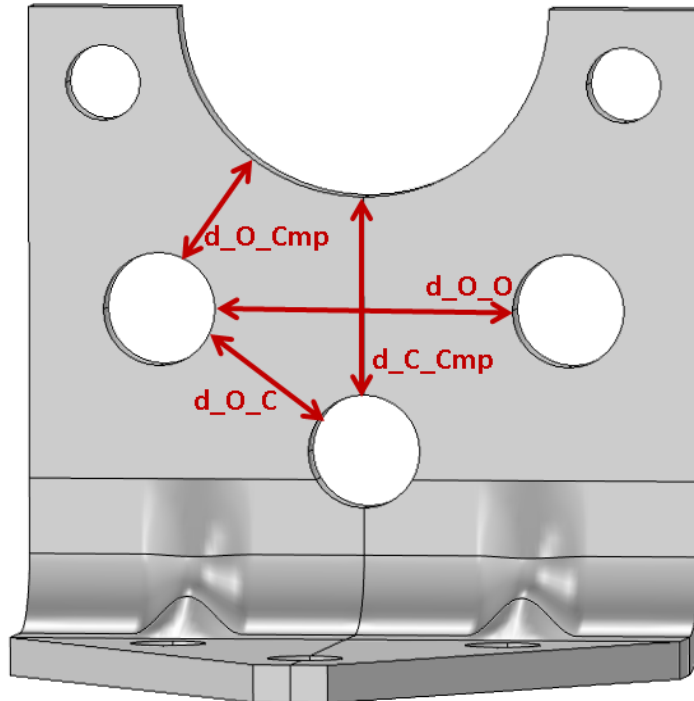

Figure 3: Geometrical constraints
- There must be at least 3 mm of material between two holes, or between a hole and an edge. This criterion is enforced both through the limits on the control parameters, and as constraints. The geometrical constraints are shown in Figure 3.